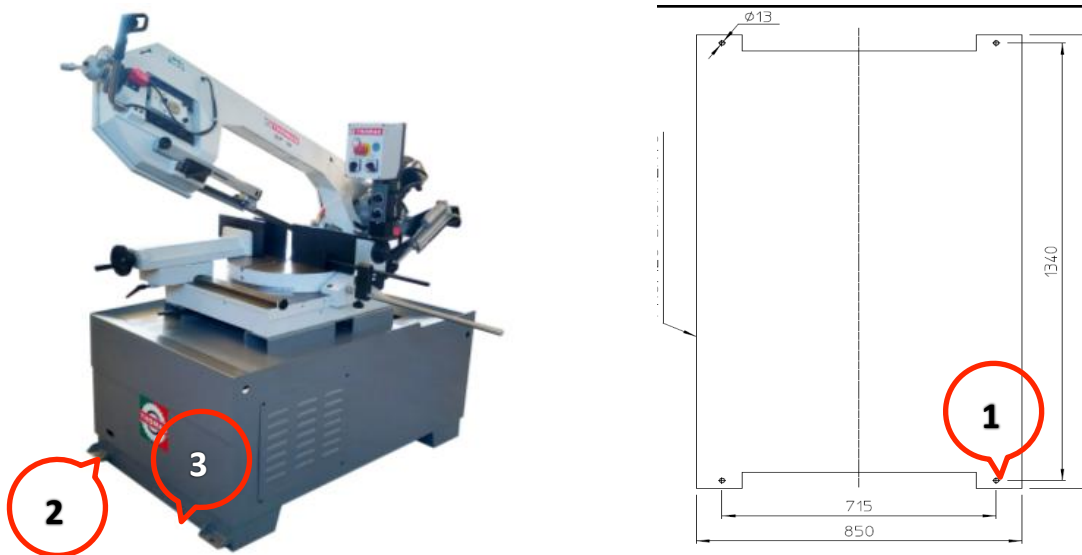

Figure 12
- Referring to the drawing (fig. 12), provide fastening and guys to be anchored on the floor.
- The machine should be set so as the holes on the machine base (1 fig. 12) coincide with the guys down to the floor.
- Insert the screws through the holes on the machine base (2 fig. 12) and tight them partially.
- Place a level gauge on the working table of the machine and adjust the base to get a precise balance. Just in case, insert some pieces of metal plates between the base and the floor (3 fig. 12).